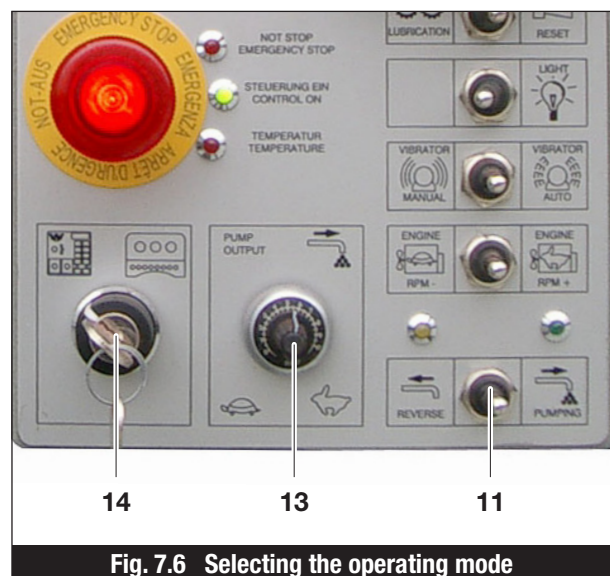

Fig. 7.6 Selecting the operating mode
- Set the operating mode selection switch (Item 14, Fig. 7.6) to "Control panel desk".
- Control each boom element individually by moving the respective control levers Element A (8), Element B (7), Element C (6) and Element D (5) in desired direction.
- Set the operating mode selection switch (Item 14, Fig. 7.6) to “Remote control”.
- Release the Emergency Stop by pressing the Horn/Reset (14). The horn will sound.
- Switch the selector switch “Outrigger/Boom” (8) to “Boom” and uncap the Emergency Stop button.
- The 50%/100% switch (10) controls the boom speed, 50% when pumping, 100% when deploying / stowing.